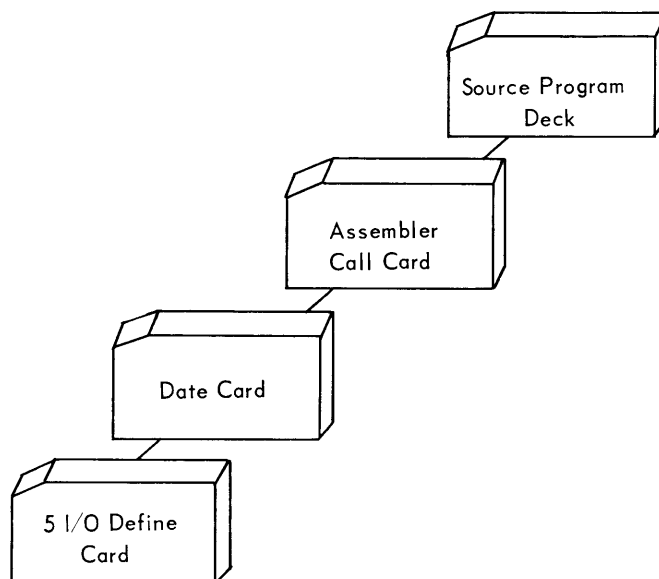

Figure 6. Composed Deck for Tape Library Systems (Card Output).
- ◆ 1. If the source program is on cards, compose the deck that is illustrated in Figure 6. If the source program is on magnetic tape, the four I/O Define cards and the assembler Call card are the only required cards.